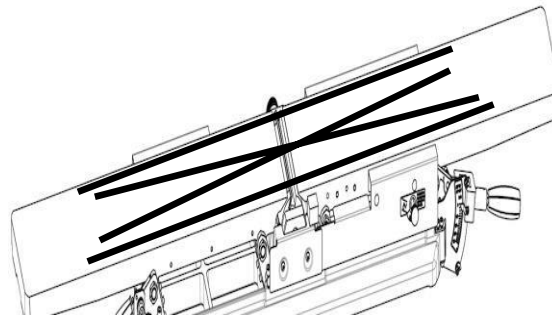

Figure 28: Checking Bed Alignment
**STEP 3:** Place straight edge in position shown in **FIG. 28**.